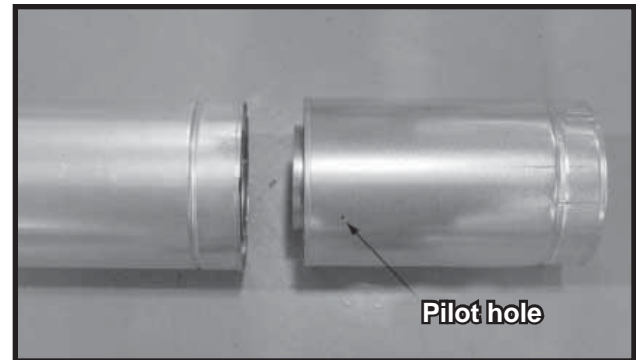

Figure 34. Slip Section Pilot Holes
- Slide the inner flue of the slip section into the inner flue of the pipe section and the outer flue of the slip section over the outer flue of the pipe section. See Figure 34.